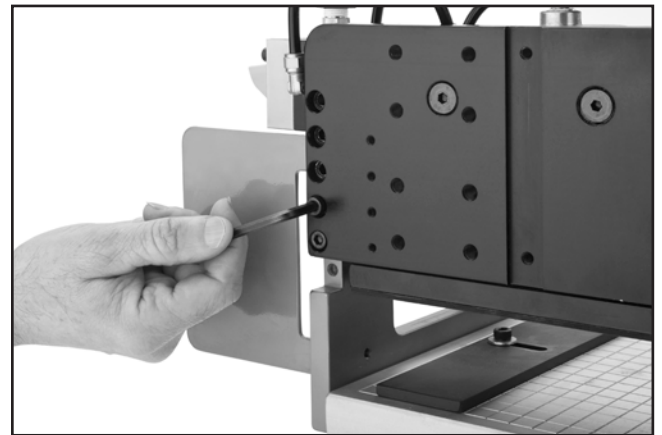

Figure 9. Adjusting the clamp height.
1. Remove the (6) M6-1 x 20 cap screws, as shown in **Figure 9**.